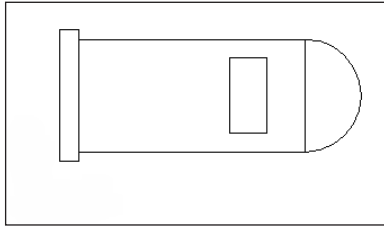

Figure 4-31: The completed steam boiler
11. Save your drawing. It should look like Figure 4-31.